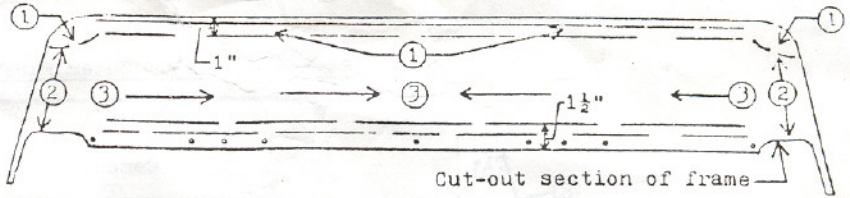
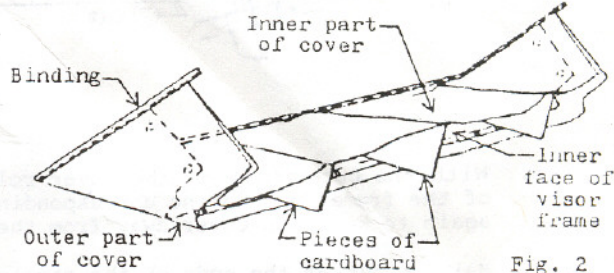

Fig. 1 - View of Inner Face of Visor Frame
Fig. 2
- Slide the visor frame into the visor cover until the binding of the cover is tight against the front edge of the frame. Center the cover over the frame. Apply contact cement to the two front corners of the inner face of the visor frame and to the first inch of the inner front edge of the frame (1, fig. 1), and also apply cement to the corresponding areas of the inside face of the inner part of the visor cover. Let the cement dry until it becomes tacky before pressing the cover down against the frame. Note: To keep the cover separated from the visor frame until you are ready to press the cover down, insert pieces of cardboard on edge between the frame and the cover (fig. 2). Press the corners down first, and then do the rest of the front edge. Keep the binding tight against the edge of the frame at all times when installing the visor cover.
- Cement the two sides from the bottom edge of the frame up to where the cut-out section of the frame begins (2, fig. 1). Again, keep the cover separated from the frame with pieces of cardboard until the cement is tacky and you are ready to stick the cover down.
- Apply cement to the last inch and one half all across the rear edge of the frame (3, fig. 1), and to the corresponding area of the visor cover. After the cement has become tacky, pull back on the cover and press the cover down along the rear edge of the frame. Press first at the sides and then work in toward the center.